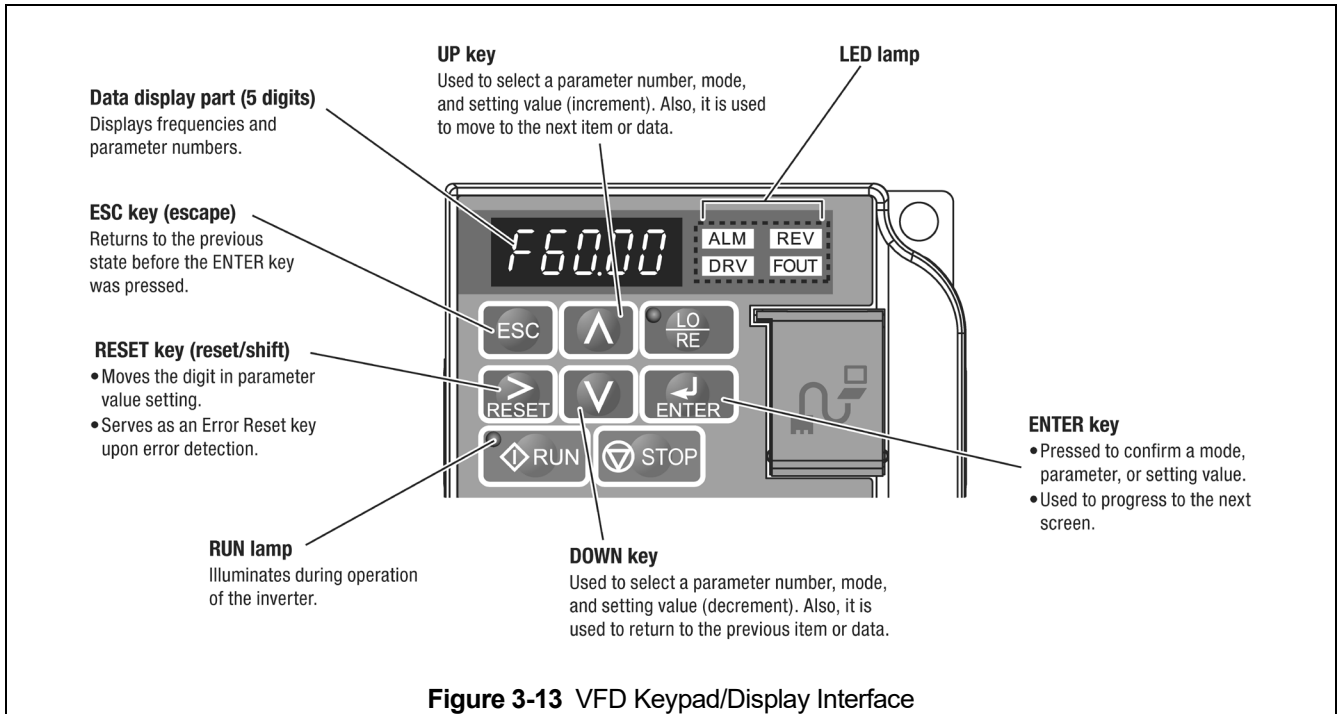

Figure 3-13 VFD Keypad/Display Interface
3.5.4 The VFD is controlled by a Keypad/Display Interface. Refer to **Figure 3-13** for Keypad/Display Interface functions and descriptions.